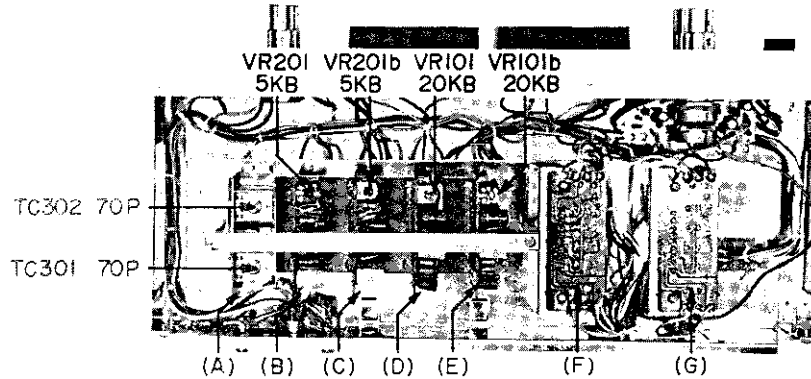

Fig. 16
- 4) Adjust the Playback Amp. P.C. Board playback level adjustment semi-fixed resistor VR101 50 k $\Omega$  (left ch.) and VR101b 50 k $\Omega$  (right ch.) shown in Fig. 16 so that the High Sensitivity V.T.V.M. indication is 4 dB (1.228V).
- 5) Set the Monitor Switch to SOURCE position and adjust Recording Amp. P.C. Board recording level adjustment semi-fixed resistors VR201 5 kΩ (left ch.) and VR201b 5 kΩ (right ch.) shown in Fig. 16 to obtain a Line output level of 4 dB.
- 3) Under these conditions, adjust OSC. P.C. Board frequency response adjustment trimmer condensers TC301 70P (left ch.) and TC302 70P (right ch.) shown in Fig. 16 to obtain an equally flat frequency response at 1,000 Hz and 10,000 Hz.